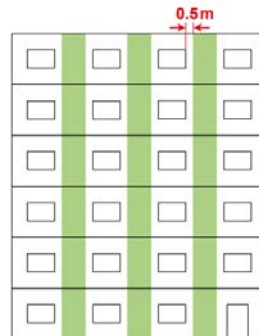

Abb. 12
- 0.5 m distance between greenery and openings (e.g. windows) (Fig. 12)